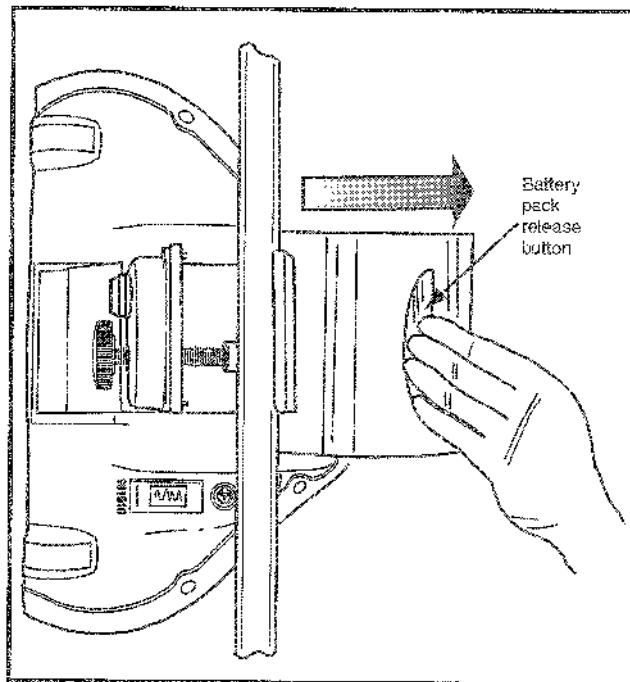

Figure 3
- I. Refer to Figure 3. Press and hold the battery pack release button. Then, slide the battery pack out of the pump. You may want to use both hands (one to steady the pack) when removing the battery pack. Use care not to pinch your fingers or drop the battery pack.